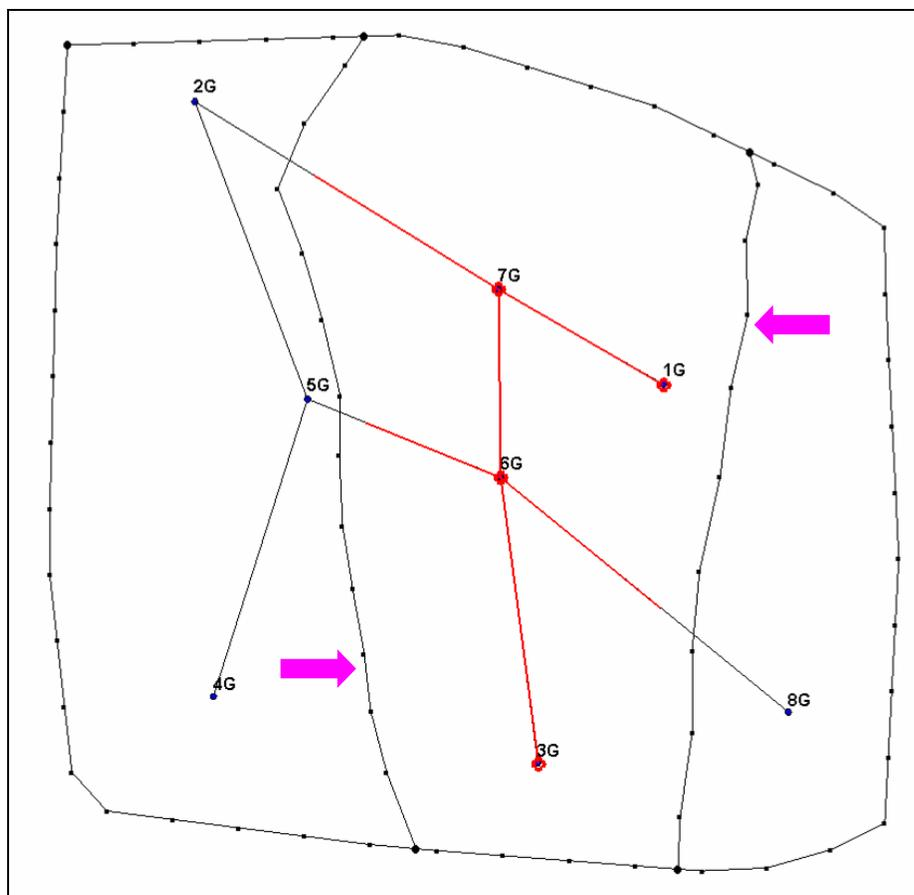

Figure 3. Arcs Created in the Horizon 4 Coverage (Identified by the Arrows).
8. Create 2 arcs similar to those identified by the arrows shown in Figure 3. Notice that the arcs surround the red highlighting on the cross sections.